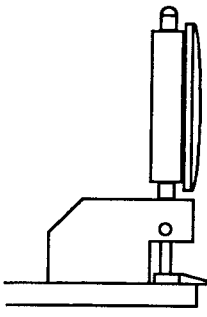

Fig. 32
- Place the Dial Height Gauge onto the Post Adjustment Plate as shown in Fig. 32 and adjust the pointer to zero.